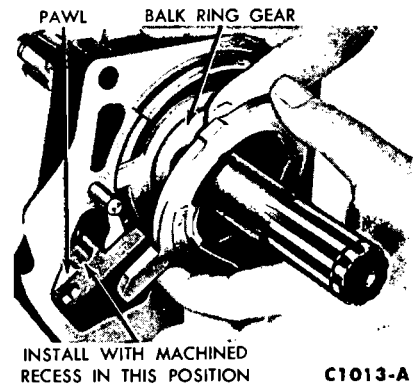

FIG. 19—Plate and Trough Installed
28. Place the balk ring gear assembly and pawl in the adapter (Fig. 19).